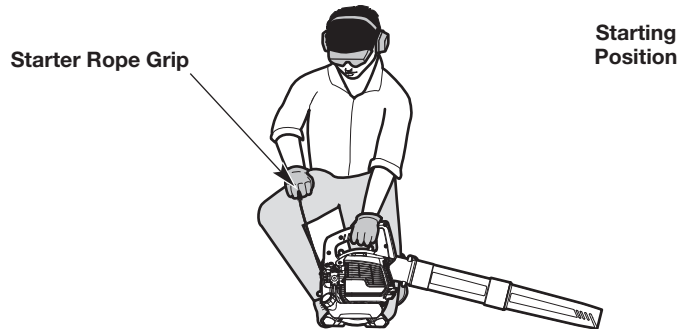

Fig. 5
WARNING: Avoid accidentally starting the unit. To avoid serious injury, the operator and the unit must be in a stable position when pulling the starter rope (Fig. 5).
3. Crouch in the starting position (Fig. 5).
5. Pull the starter rope with a controlled and steady motion **5 times** (Fig. 5).